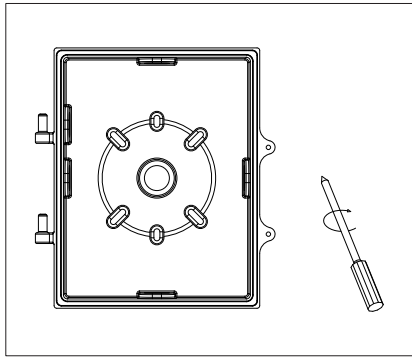

Figure 9
**STEP 6:** Align the holes on the lamp base with the holes on the wall and tighten the screws (Figure 9)